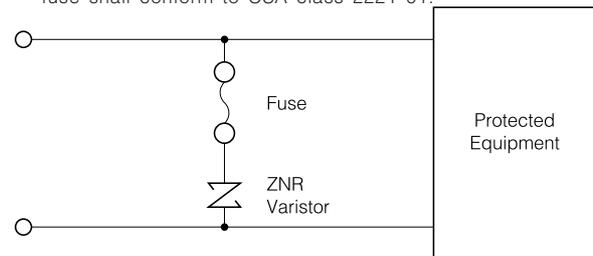

Fig. 2 Alternative Fuse Location/placement for Varistor Protection
2.3.2 When a line current of equipment is higher than the recommended current rating of the fuse in Table 2, the location of the fuse shall be arranged according to Fig 2.